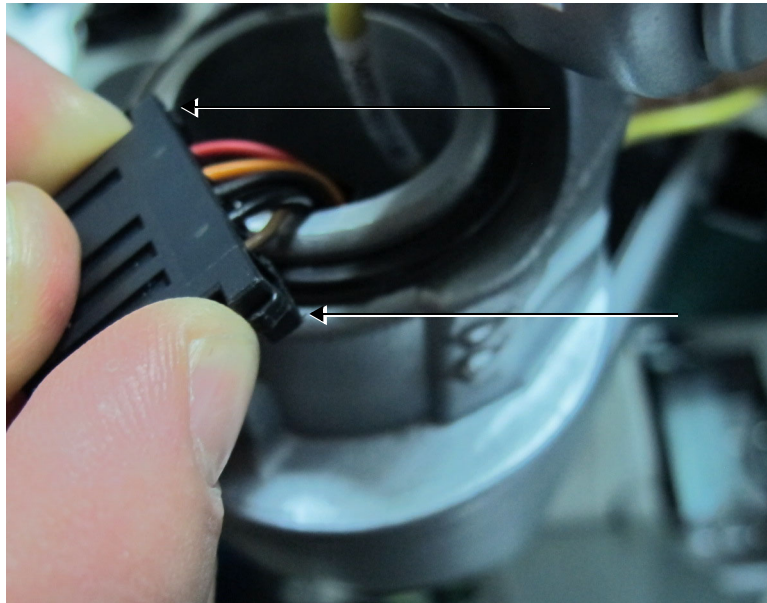

Figure 8-104 Squeeze the Connector Clips and Feed Cable Downwards
- 7.) Squeeze the connector clips, then feed the display monitor cable lead to the OPIO through the upper articulated arm joint as shown in Figure 8-104.